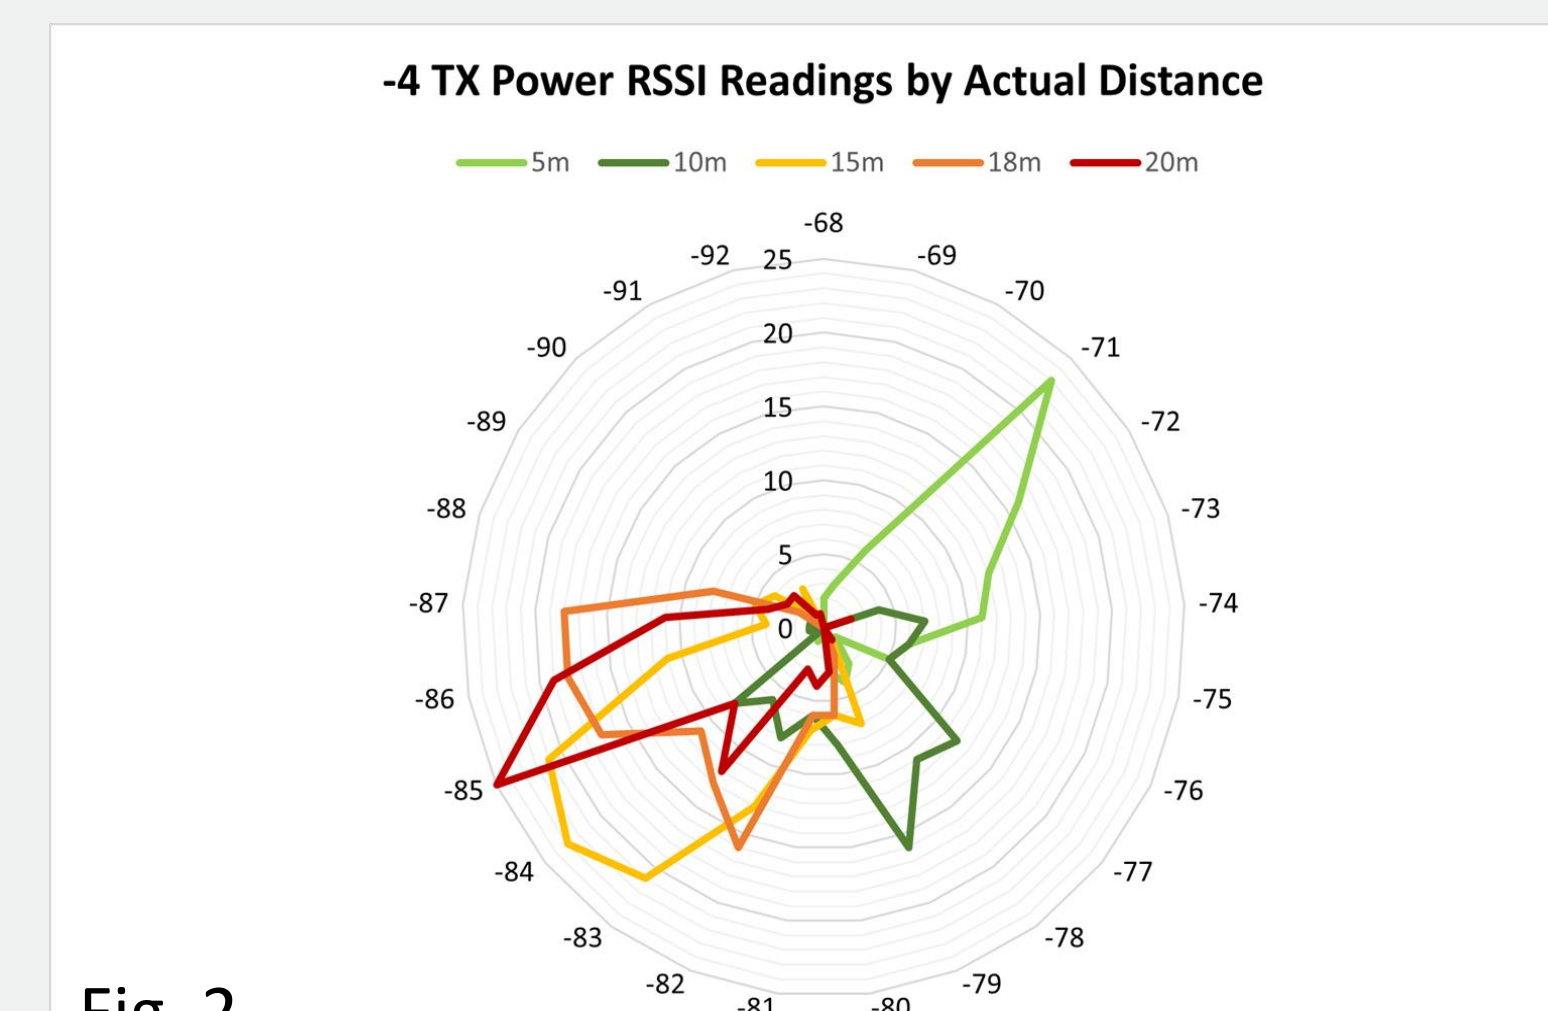

Fig. 2
- Figure 2: Count of different RSSI values read at varying distances. At distances greater than 15m, the RSSI values overlap, making distinguishing different distance values hard. This shows that RSSI is not a good tool for trying to track proximity greater than 15m.